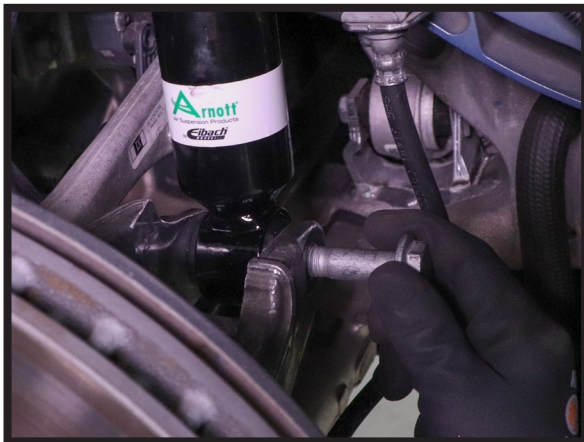

FIGURE 13
3. REINSTALL THE FACTORY BOTTOM MOUNT BOLT AND NUT. TIGHTEN TO MANUFACTURER'S SPECIFICATIONS. (FIGURES 13, 14)